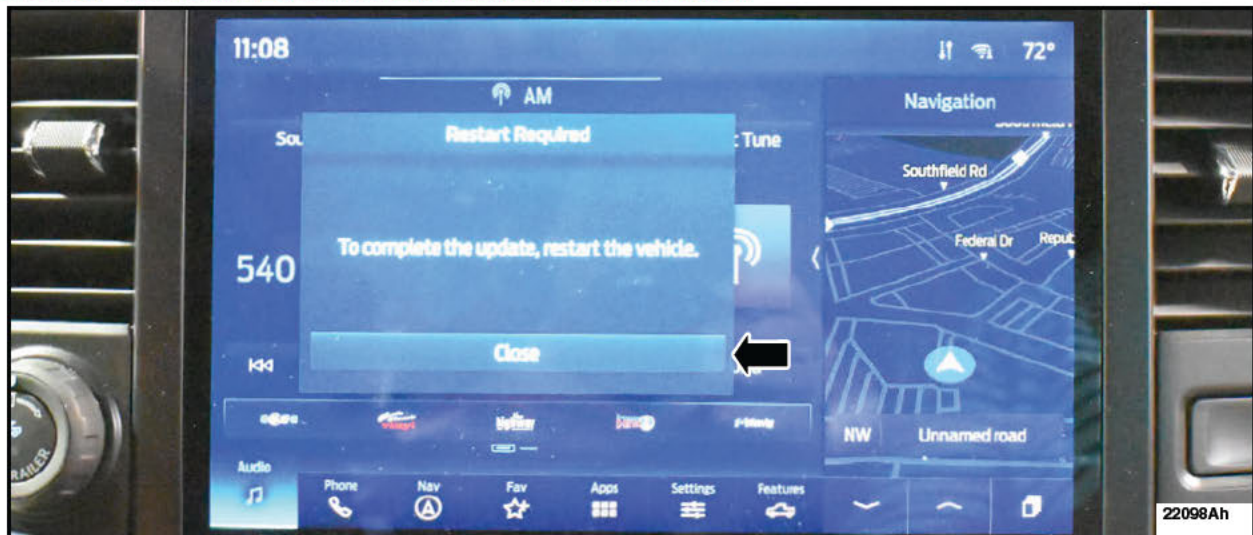

FIGURE 18
19. Turn off the vehicle and open and close the driver's door. See Figure 18.